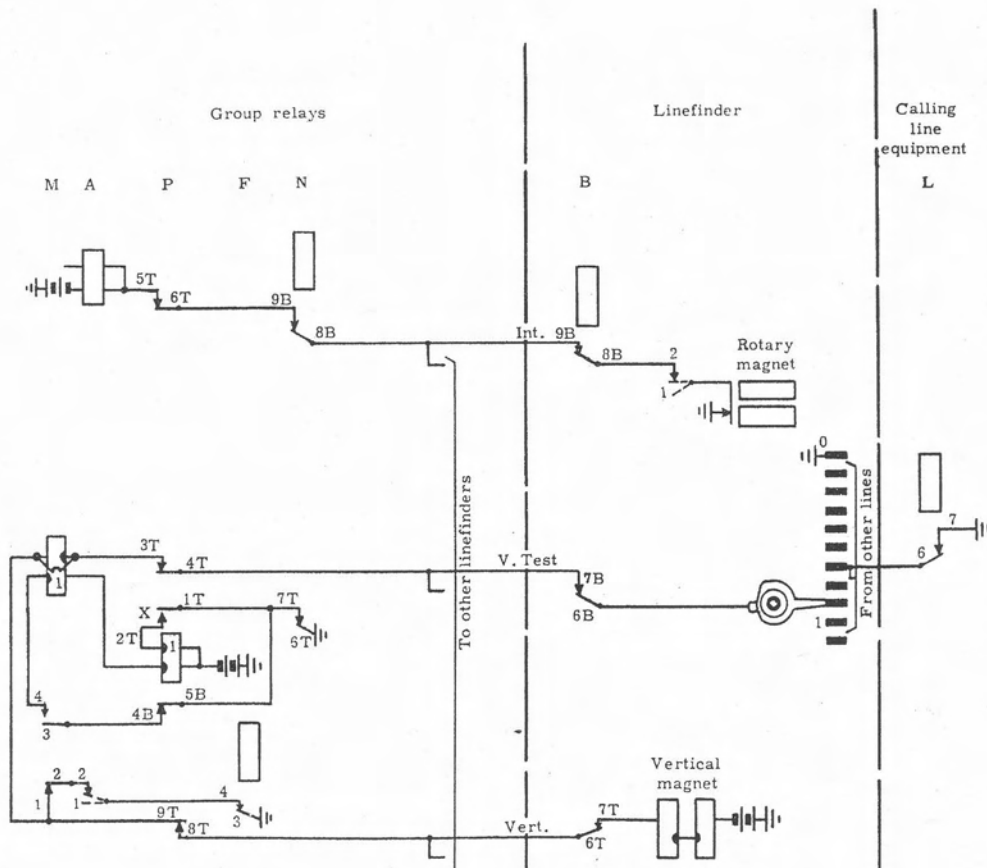

Figure 16. Vertical stepping.
4.3 Vertical stepping. Linefinder relay B also (figure 16) operates group relay A. Group relay A operates the vertical magnet of the preselected linefinder. The vertical magnet lifts the shaft and wipers one step and opens the vertical-interrupter contacts. The vertical-interrupter contacts release group relay A which releases the vertical magnet. Upon releasing, the vertical magnet closes the vertical-interrupter contacts which operate relay A. This cycle repeats until the wipers are lifted opposite the level of contacts containing the calling line. The vertical wiper then touches the marked vertical contact.